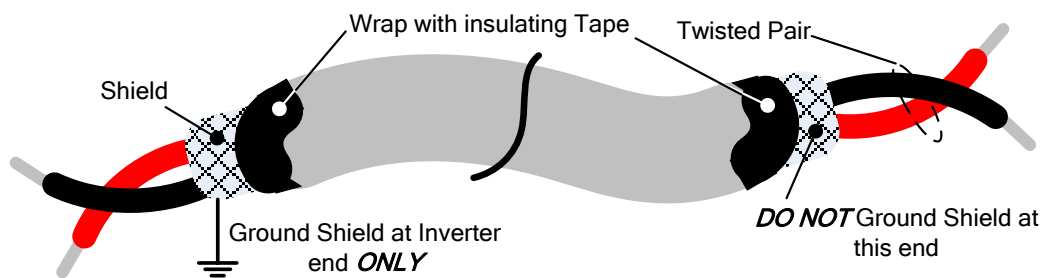

Fig. 3.17.1 Shielded Twisted-Pair
- (1) Separate the wiring for control circuit terminals from main circuit wiring for terminals (R/L1, S/L2, T/L3, U/T1, V/T2, W/T3).
- (2) Separate the wiring for control circuit terminals R1A-R1B-R1C (or R2A, R2C) (Relay outputs) from wiring for terminals ① - ⑥, A01, A02, GND, DO1, DO2, DOG, +12V, (-12V), AI1, AI2 and GND wiring.
- (3) Use shielded twisted-pair cables (#24 - #14 AWG / 0.5 - 2 mm²) shown in Fig. 3.17.1 for control circuits to minimize noise problems. The maximum wiring distance should not exceed 50m (165 ft).